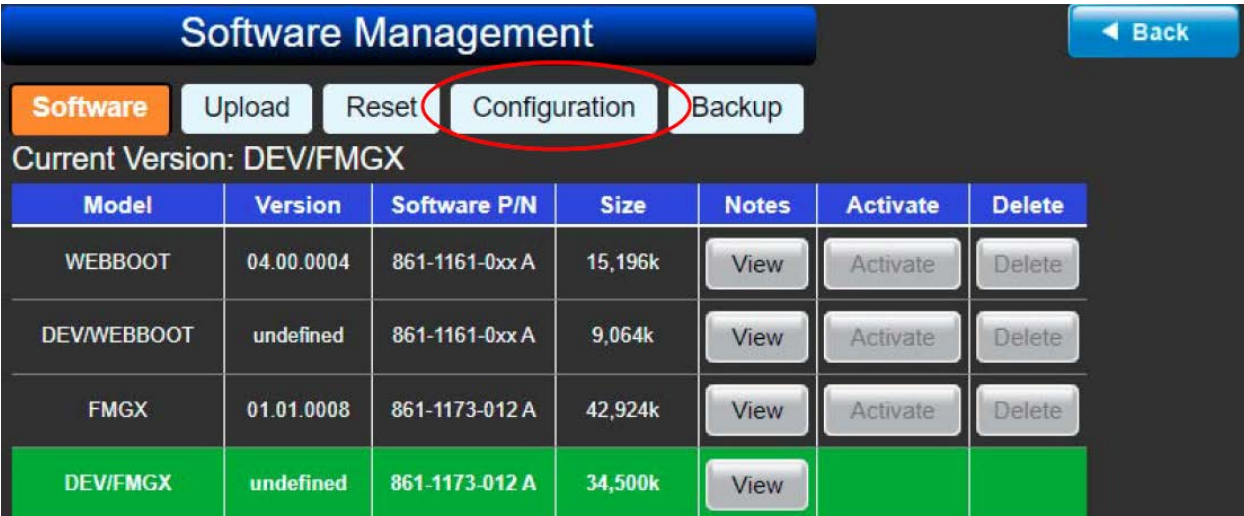

Figure 6-1 GX GUI ISP Screen
- STEP 2** Open a web browser and establish a connection, once there is a connection, navigate from the HOME page select the *Menu button* and then to the *Setup >> Update* button to open the Software Management main screen shown in Figure 6-1.
- STEP 3** Click on the **Configuration** button circled in Figure 6-1 to open the it's sub-menu screen, *Export/Import* in Figure 6-2.